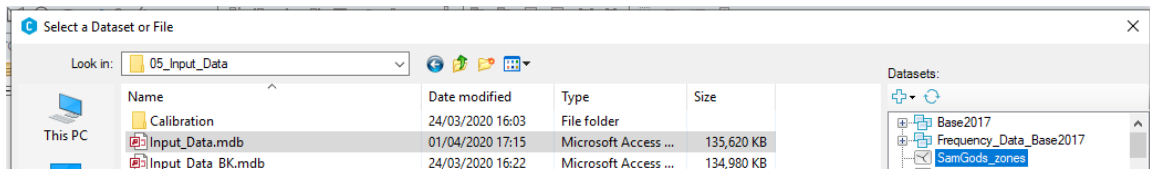

Figure 99 SamGods_zones layer in Input_data.mdb
- 4) Clicking on "Add data>Geodatabase Data", see Figure 99, add {CATALOG_KEY}\Input_Data.mdb\Samgods_zones background layer. This is used only for cosmetic purposes